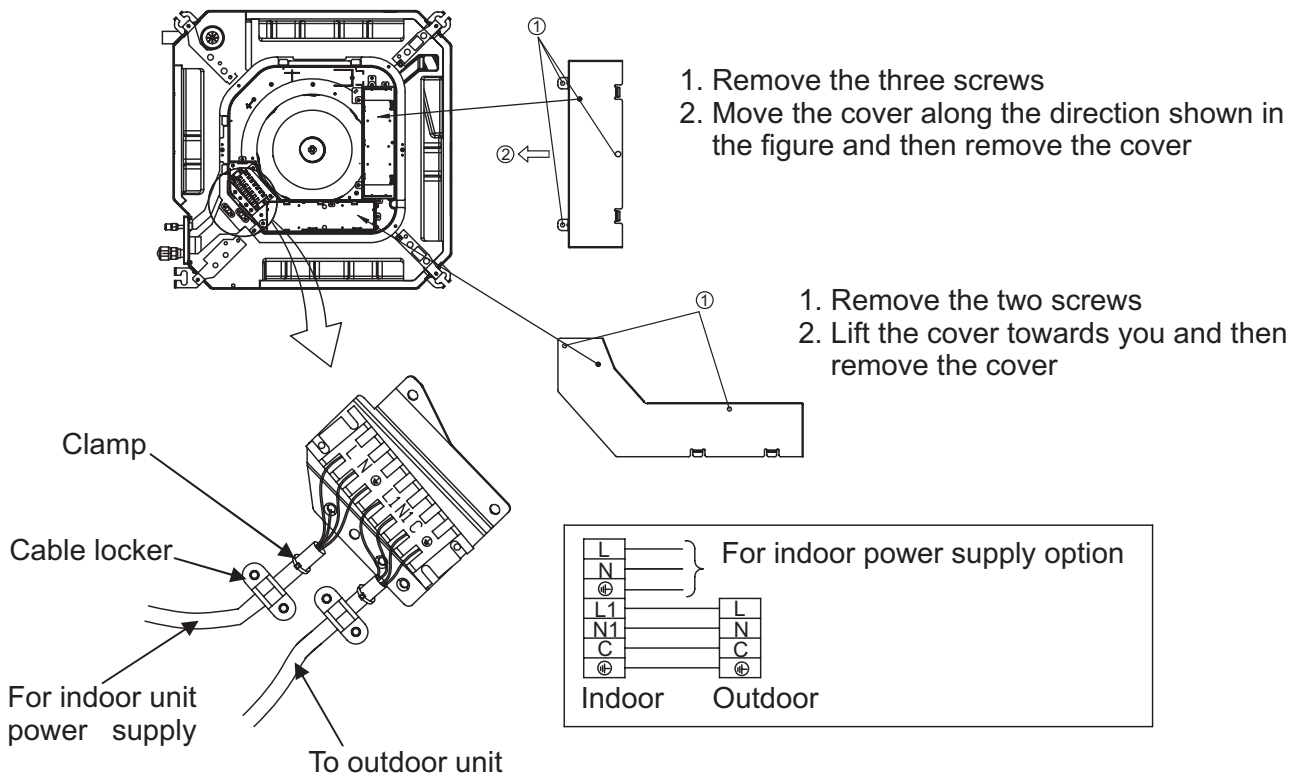

Fig.16
3. Connect the cable ends to the terminals of the indoor and outdoor units, as shown in fig 16.